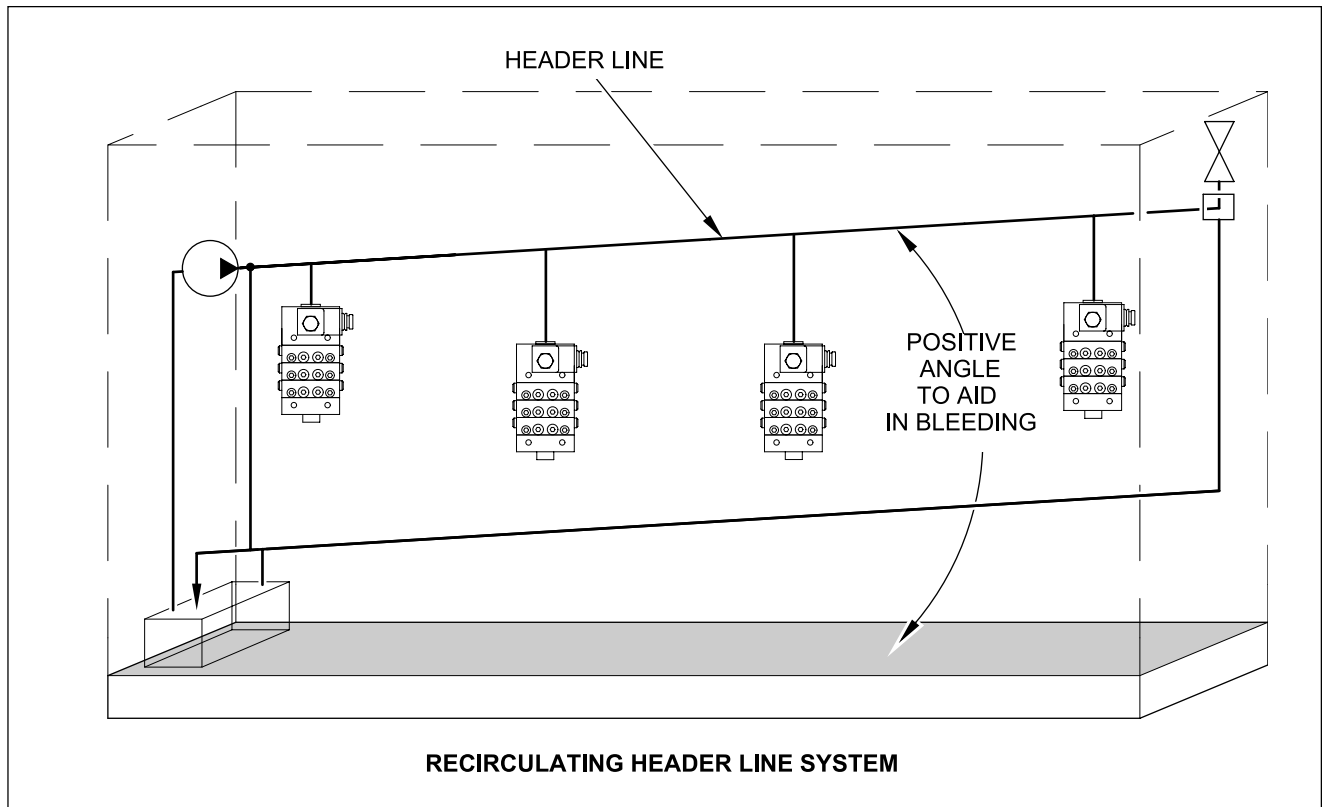

Figure 1
5. In larger systems with multiple lubrication zones, a header line may be used. In this case, the header should be configured to rise up-ward from the pump connection with a continuous positive slope. Also, a convenient means of purging air out of the line, such as a T-connector with a check valve and plug, should be installed at the highest point of the header line, i.e., at the end point furthest from the pump. See Figure 1.
See Figures 1 and 2 for examples and diagrams of these general system configuration guidelines.